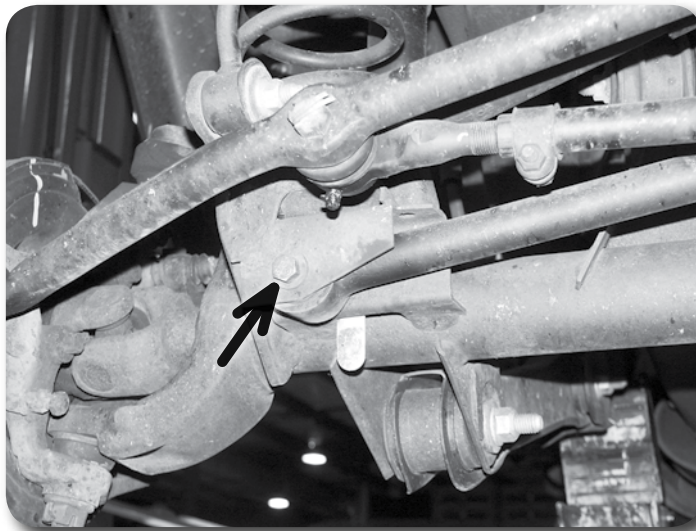

Figure 1
3. Remove the bolt mounting the front track bar to the passenger's side of the axle (Figure 1). Save track bar bolt and nut tab. Allow the track bar to hang free.